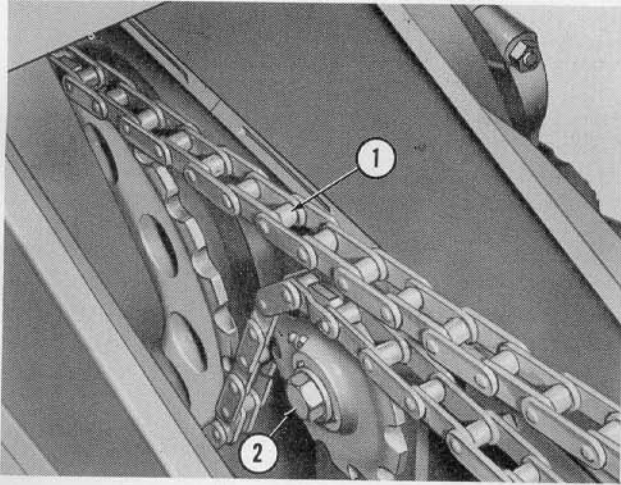

Figure 14
2. The main drive chain (1), Figure 14, is adjusted for proper tension by moving the tightener (2) forward or rearward.